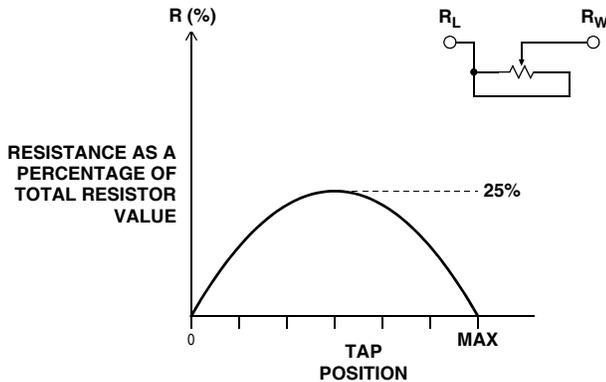

FIGURE 8. RESISTANCE vs TAP POSITION FOR BIAS CIRCUIT
To achieve “the high resolution of set current”, two potentiometers may be used in series. In the design example shown in the Appendix, the two ends of the potentiometer have been looped back to give a parabolic curve of resistance versus tap position. Near the center tap position, a very fine resolution may be achieved (Figure 8).
6. Honeywell Optoelectronics Application Sheet, "High Speed characteristics of VCSELS", Jim Tatum et al, figures 8, 9 &10